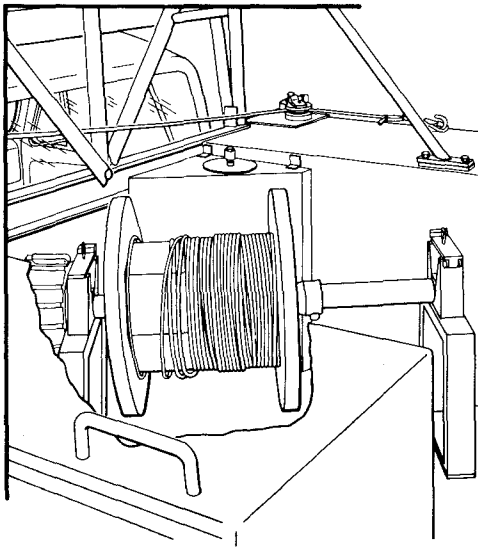

Fig. 13—Strand Reel Carrier
(2) Hydraulic reel carrier—Usually located in the right rear bin. Check 3500-pound carrier with arms in down position. Check 2500-pound carrier with arms in up position. (See Fig. 13.)